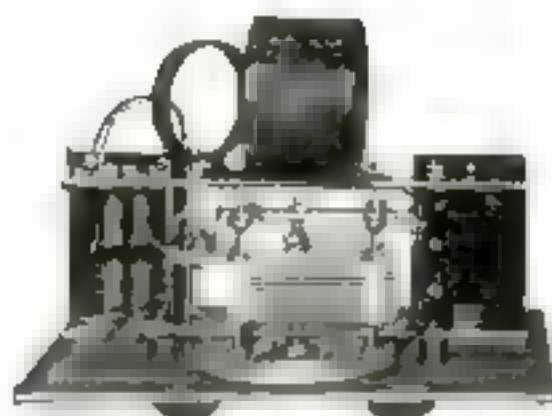
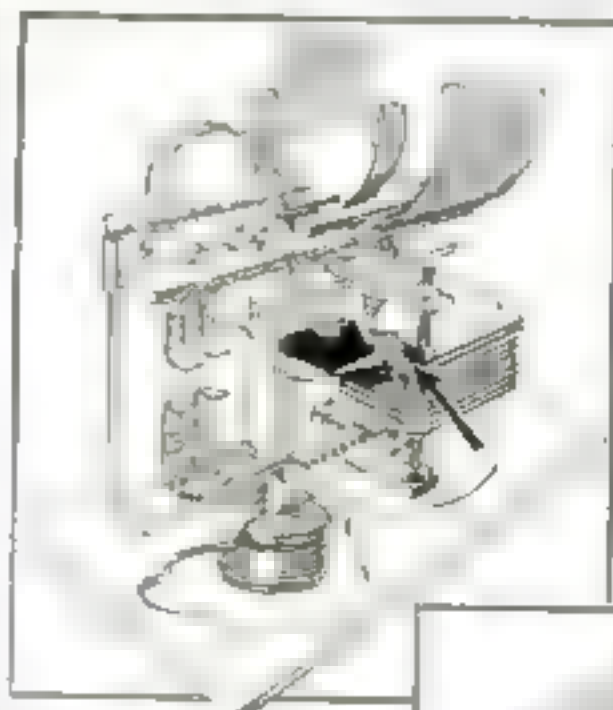

Fig. 1. Bottom view of Mr. Nebeker's prize winning set showing frame details, friction dial drive, and grid condenser
Fig. 4. Arrow at right indicates simple friction drive that operates dial of tuning condenser. A spring maintains the friction.
The winning set was submitted by Lyman M. Nebeker, of Washington, D. C. It is shown in Figs. 1, 2, and 3. The circuit used is conventional in every respect. It
The dial is operated by a friction vernier arrangement constructed with a spring which grips the edge of the aluminum disk between two small brass disks, one of which is rigidly attached to the vernier knob shaft and the other slides on it. This method of driving the dial is shown in the photographic illustration of Fig. 1 and also in the drawing of Fig. 4. The motion is as smooth and velvety as anyone could desire.
**A** **1** **NIQUE** feature of the set, and one the writer does not recall having seen on any commercial set, is the grid condenser. If you examine any conventional radio diagram, you will note that one terminal of the grid condenser always is connected directly to the stationary plates of the tuning condenser. Mr. Nebeker has completely eliminated this connection by making one of the stationary plates of the tuning condenser extend considerably beyond the others and then he uses this extended portion as one plate of his homemade grid condenser. This is a neat, simple, and highly efficient arrangement. It is shown clearly in the illustration of Fig. 1 and the drawing of Fig. 4.